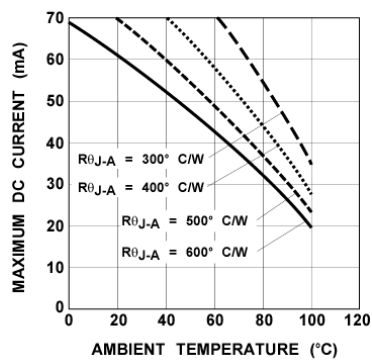

Figure 4a. HPWA-XX00 Maximum DC Forward Current vs. Ambient Temperature.
- Derate linearly as shown in Figures 4a and 4b.